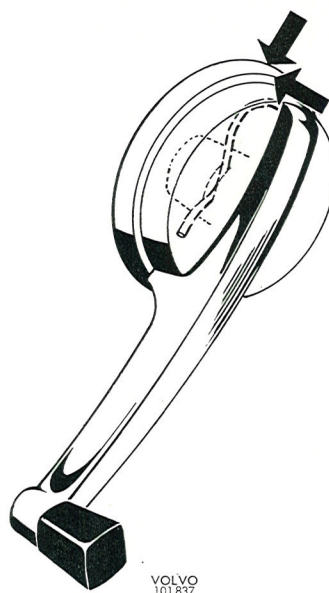

Fig. 8-9. Removing winding handle
2. Remove the window winding handle by pressing in the washer towards the door upholstery and the towards the handle in the same direction as the handle as shown in Fig. 8-9. This releases the spring clip and the winding handle can be taken off.
When fitting, make sure that the spring clip is fitted so that its open end faces towards the winding handle as shown in Fig. 8-9.